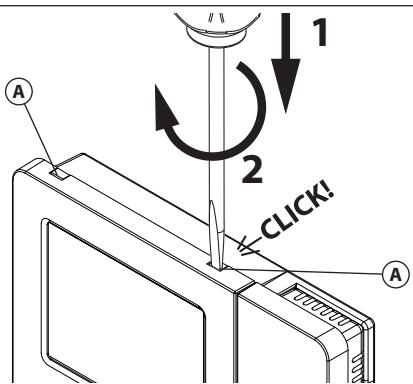

Fig. 3
- In order to install the videophone, it is necessary to remove the cover, which contains all the electronics, from the base: firstly disconnect the handset from the videophone (by removing its plug from the videophone) then insert a 5.5mm flat screw driver into the clip (A) then rotate clockwise until you listen a "CLICK!". Repeat the same operation with the other clip as shown in Fig. 3.